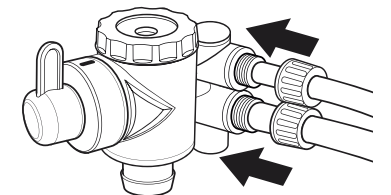

Figure 3.21 – Installing Inlet and Outlet Tubes to Tube Connectors
9. Install the end of the larger (12.7 mm / 1/2 inch outer diameter) inlet tube to the larger inlet connector on the diverter. Firmly push the inlet tube end fully onto the barbed fitting. Next, screw the fitting nut onto the connector threads, securing the tube in place. Repeat for the smaller outlet tube (see Figures 3.21 & 3.22).